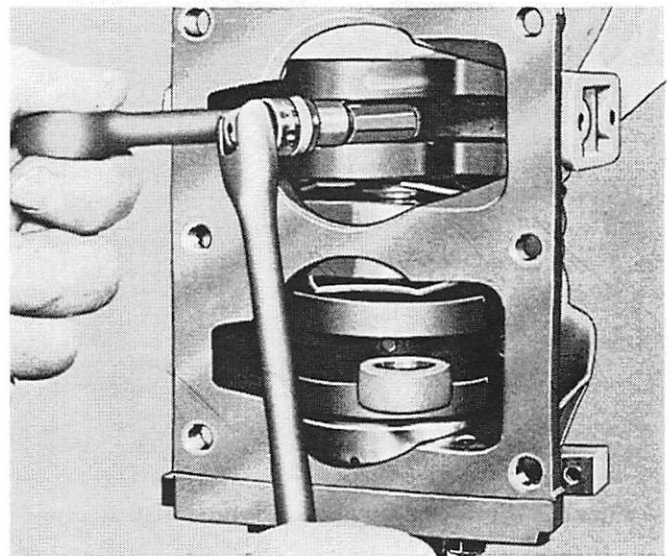

Figure 4. Removing Connecting Rods
11. Remove connecting rods from crankshaft. (Figure 4)